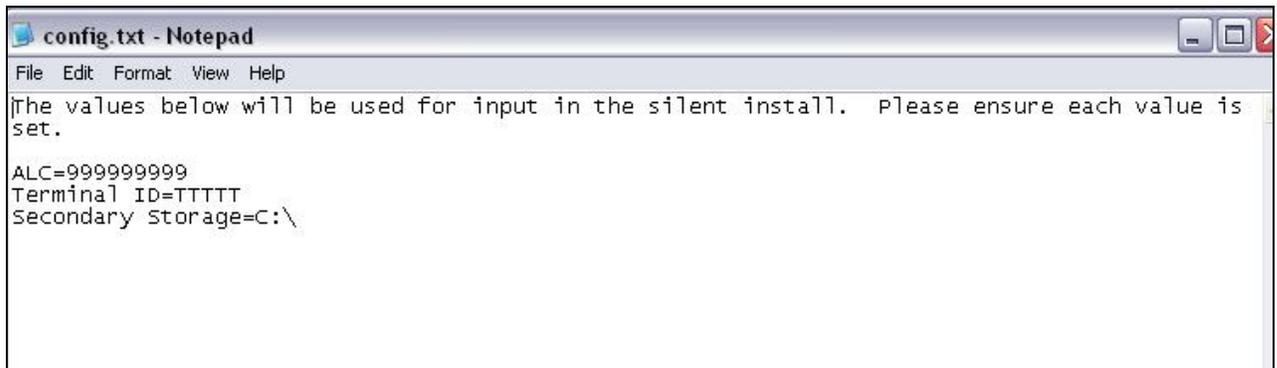

Figure 2.3.4
1. Navigate to the folder where you copied the three files in the previous section. Open the config.txt file by double clicking on the file name. The file should open in a word processor such as Windows Notepad and displays sample values, as displayed in Figure 2.3.4 below: